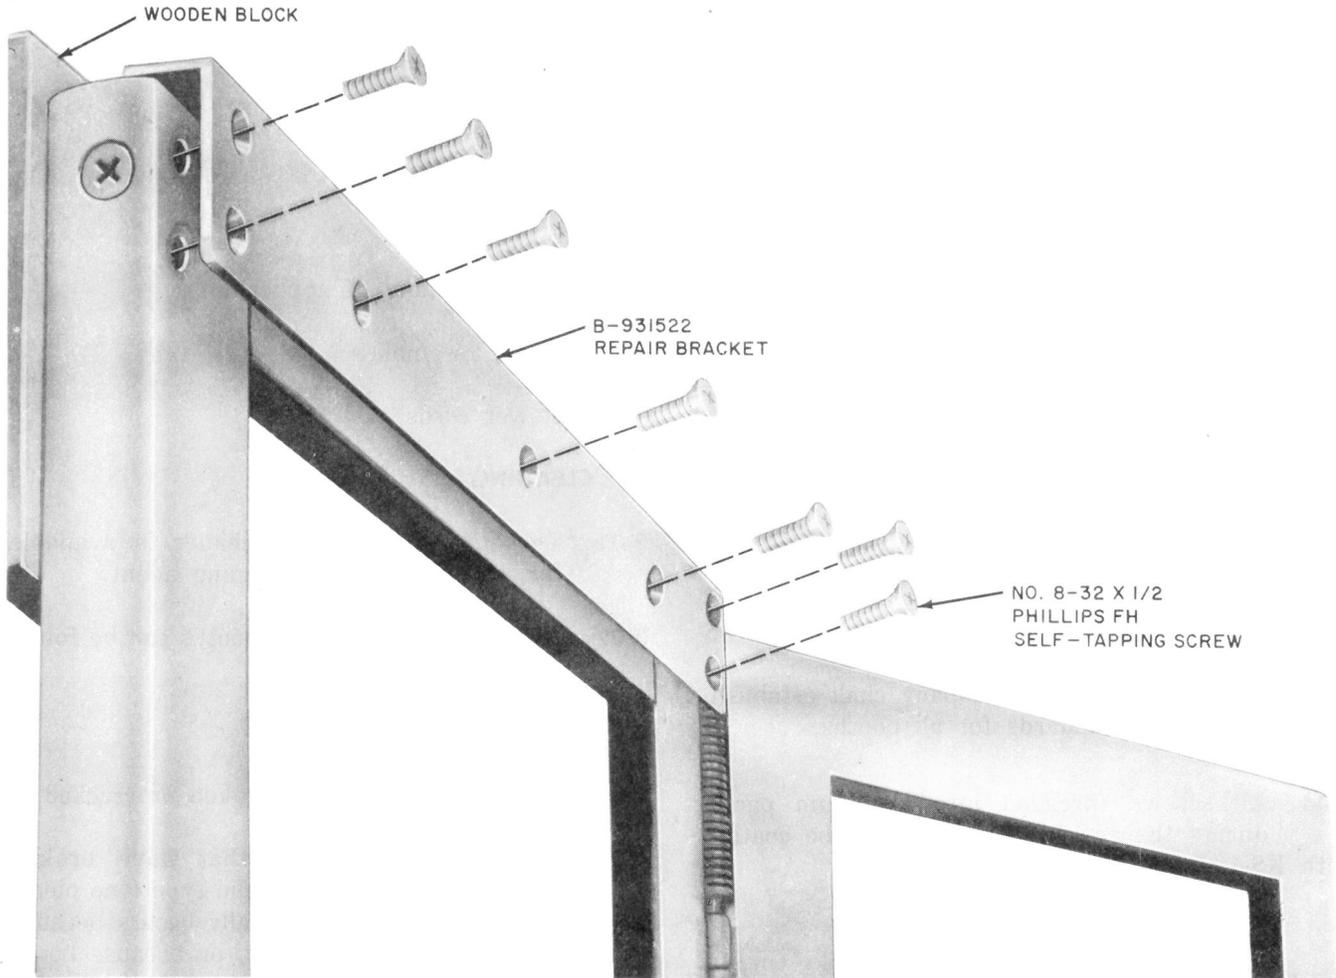

Fig. 1—Installation of Door Repair Bracket
4.02 Replace door sections that have broken mitered joints. Repair solid-type (one piece) sections (Fig. 1). Fracture usually occurs because of misuse, improper adjustment, or because booth is not level. Check the cause and repair as follows: